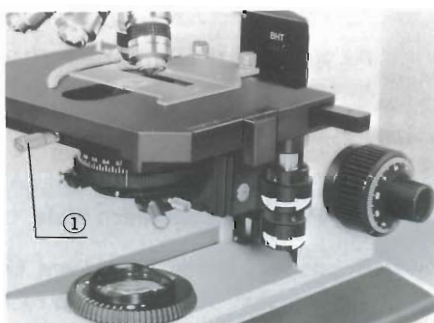

Fig. 8
3) Bring the portion of the specimen for observation into the light path by means of the low drive control knobs. (Fig. 8)
- ★ Tighten the stage clamping screw ① in the microscope front.